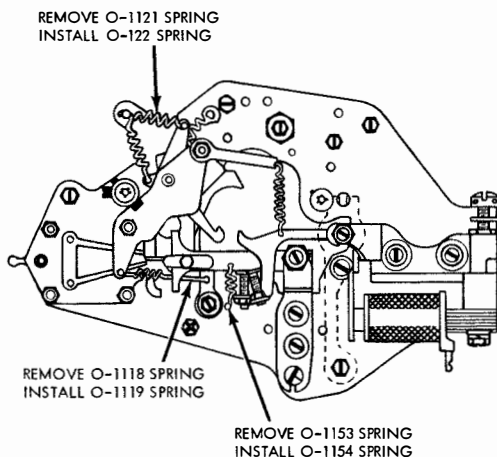

Figure 3-17. Parts Required for Changing Selector Mechanism to 100 WPM (Experimental) Operation
2. Install the O-1020 clutch spring in place of the O-1019 clutch spring. (See figure 3-17.)
3. Insert the O-1156 wick in the O-1154 selector arm spring and install the spring in place of the O-1153 selector arm spring. (See figure 3-17.)
4. Install the O-1119 selector arm detent spring in place of the O-1118 selector arm detent spring. (See figure 3-17.)